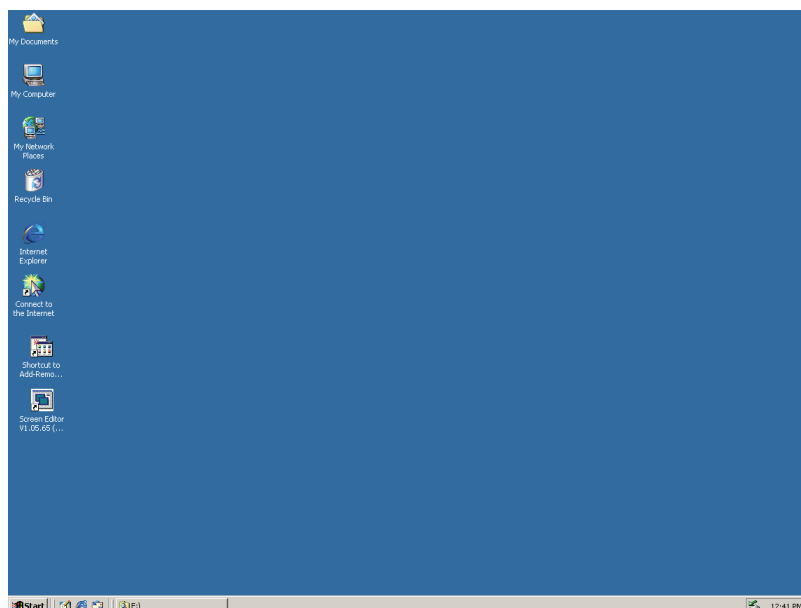

Fig. 2.1.1 Open Microsoft Windows
1. Step 1: Please start-up your computer to Win2000/WinXP system (Fig. 2.1.1).